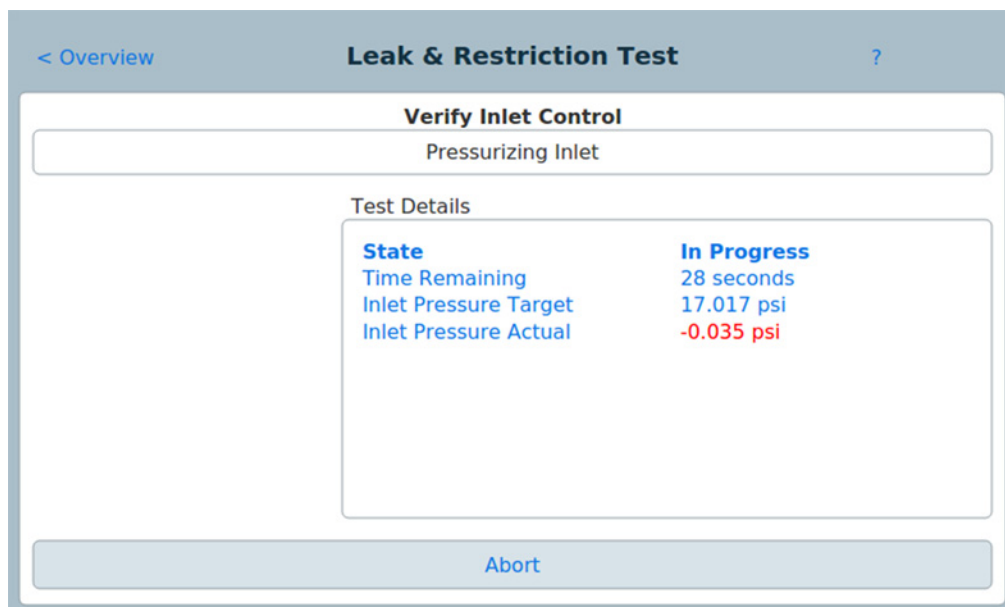

Figure 27 Leak & Restriction Test page
- 3 Press **Start Test**. Testing is initiated. Test details are displayed along with test results. See Figure 27.